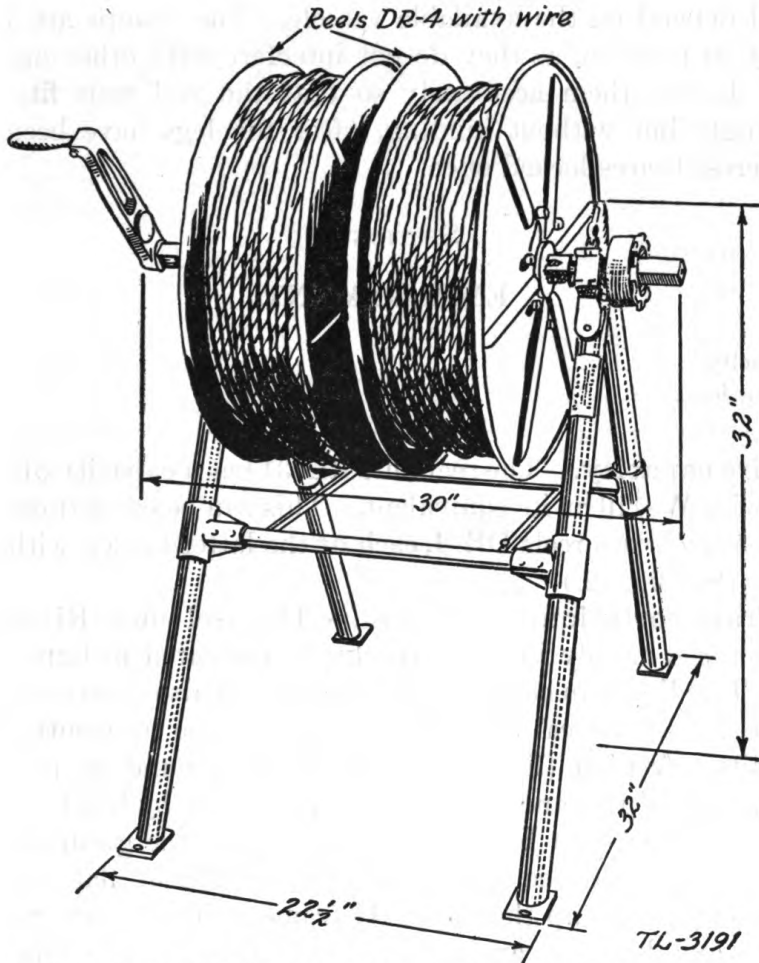

FIGURE 12.—The reel unit RL-31 loaded with two reels DR-4. Important dimensions of the RL-31 are given.
9. Wire capacity.—The reel unit RL-31 has a capacity of one mile of field wire W-110 or its equivalent. This can be carried on a single reel DR-5 or on two reels DR-4, each of the latter loaded with 1/2 mile of wire. (See fig. 12.)